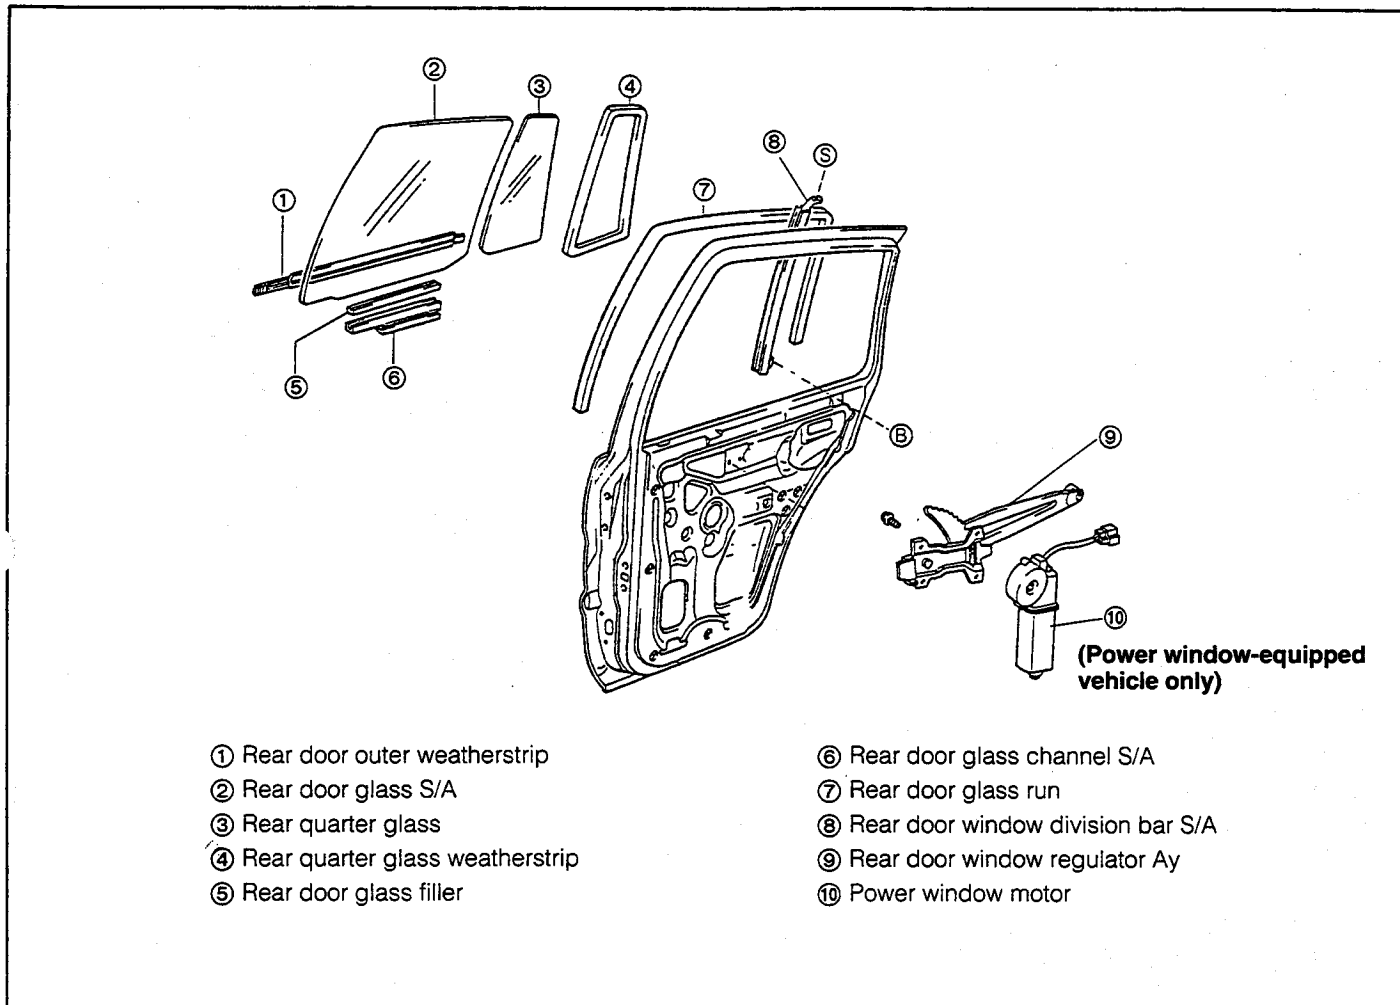

Fig. 9-157
4. Install the rear control solenoid assembly. (See Fig. 9-157.)